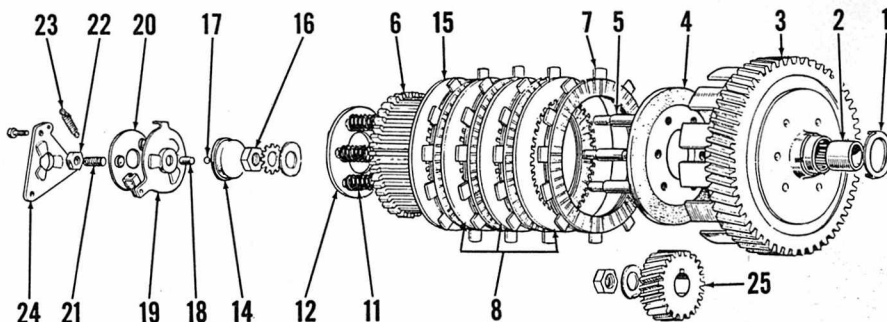

Fig. K2-14—Exploded view of clutch assembly.
**CLUTCH.** The multiple disc, wet type clutch is mounted on the right end of the transmission input shaft. Clutch springs (11—Fig. K2-14) should have 24.5MM (0.964 in.) free length and should be renewed if less than 23MM (0.906 in.). Friction discs (7) should be 4.0MM (0.157 in.) thick